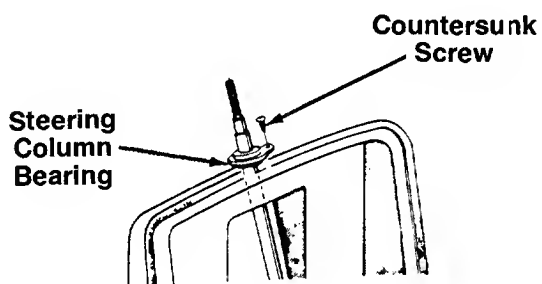

FIGURE 8.
5. Place the steering column bearing (solid side up) over the upper end of the steering shaft. Seat the steering column bearing into the hole in the dash panel. Secure with countersunk screw. See figure 8.